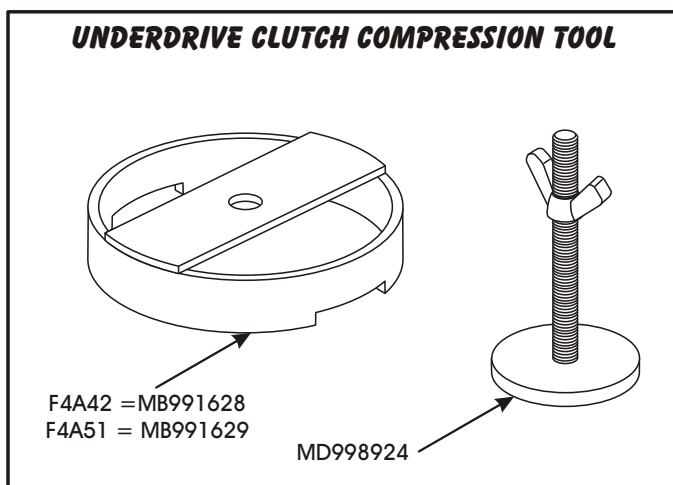

Figure 117
15. Install the clutch compressing tools, as shown in Figure 117 and 118.